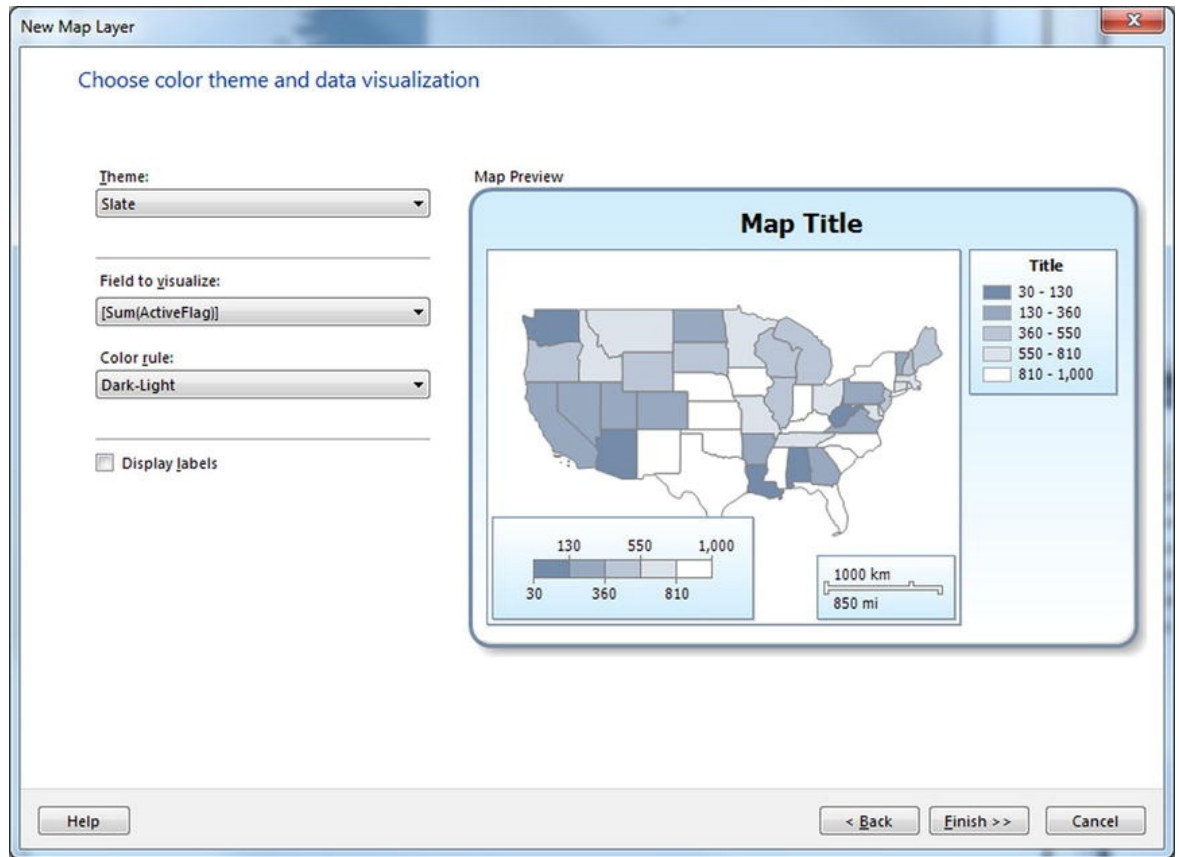

Figure 5-8. The Choose color theme and data visualization pane
16. Select Slate as the theme and [Sum(ActiveFlag)] as the field to visualize and Dark-Light as the Color rule. The pane will look like Figure 5-8.
■ **Note** The Map Preview in Figure 5-8 gives a pretty good idea of what the final map will look like. If the map object that you have added to your report is too small, the preview will also make this evident.